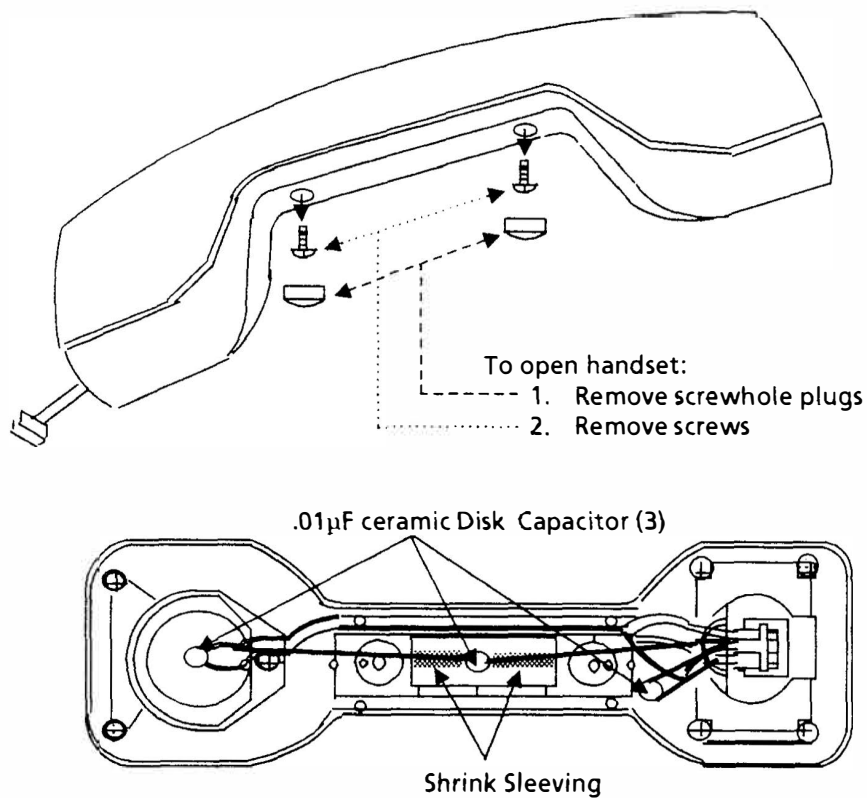

Figure 1
4.3 Obtain two .01 μ F ceramic disk capacitors and cut both capacitor leads approximately $\frac{1}{4}$ inch in length as shown in Figure 1. Inside the handset half which contains the receiver and transmitter elements, solder one .01 μ F ceramic disk capacitor across the receiver element and another .01 μ F ceramic disk capacitor across the transmitter element. Use plastic sleeving over the capacitor leads to prevent electrical shorts (see Figure 1).
4.7 Solder a length of insulated, single strand wire to each lead of the .01 μ F ceramic disk capacitors. Ensure the wire is the same gauge as the capacitor leads and long enough for one capacitor lead to reach one of the transmitter element screws and the other capacitor lead to reach one of the receiver element screws inside the handset (see Figure 1). Use shrink sleeving over the prepared capacitor leads to prevent electrical shorts. Inside the handset half which contains the receiver and transmitter elements, solder one lead of the .01 μ F capacitor to one lead of each element (transmitter and receiver).